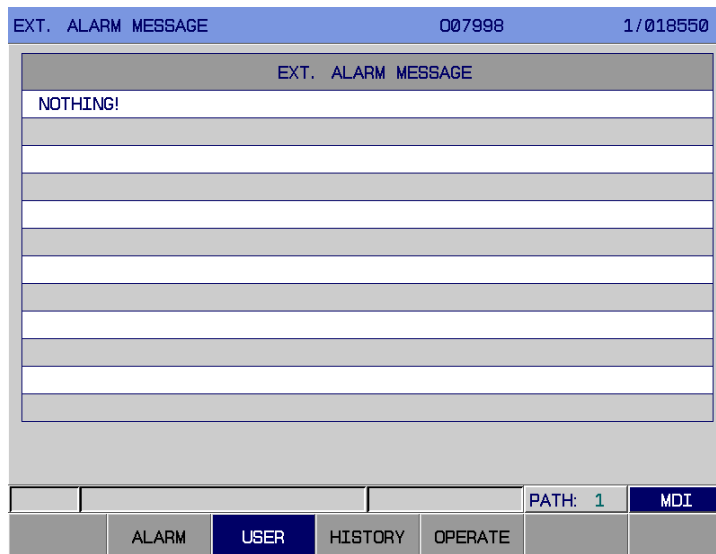

Fig. 3-7-2
2. User page In <ALARM> page, press soft key **【USER】** to enter external alarm page, as is shown in fig. 3-7-2.